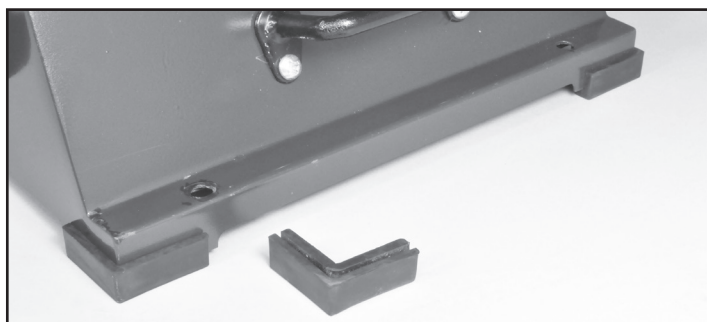

FIG. 1
1. Tilt the sander up and slide the feet onto each of the four corners of the sander. No hardware is needed. FIG. 1.